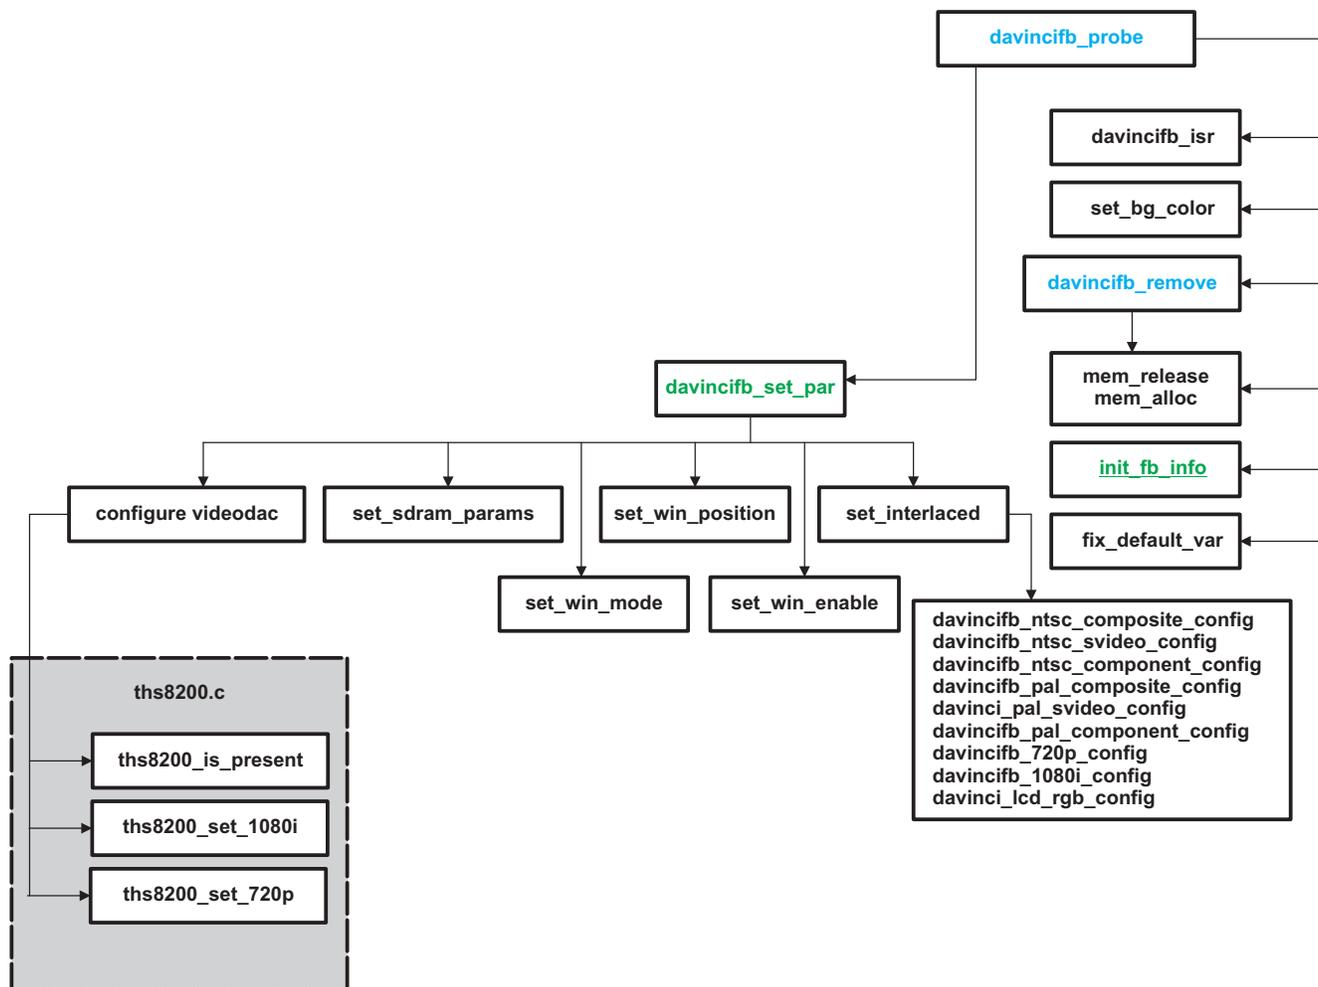

**Figure 19. Timing Diagram Showing Decode Demo and FBDev Interaction**
Similar to the driver, the decode demo that ships with the DVEVM assumes one constant configuration defined at boot time (via the u-boot environment variable). Therefore, there is no need to provide it in the information when running the decode demo from the command line (for instance, /decode -l -v data/video/davinvi\_effect.m2v). The demo source code supplied with this application report has been modified to provide a video resolution via the -r option, allowing run-time switching among the standard definition (SD), high definition (HD), and video graphics adaptor (VGA) video output modes supported by the provided software. Figure 19 shows a timing diagram showing the flows of requests from the original decode demo to the original FBDev driver.